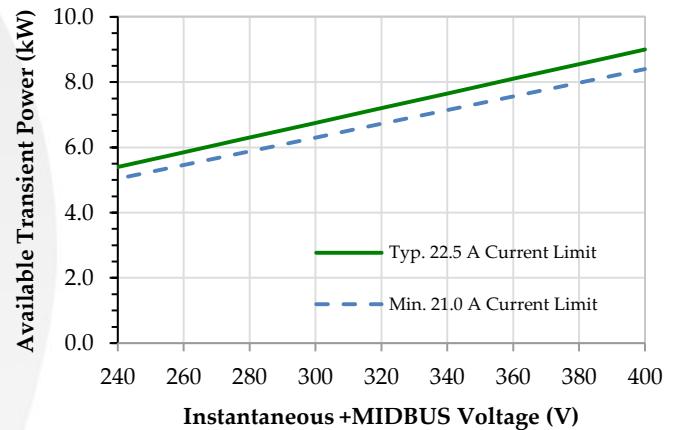

Figure 15: Available transient power vs. instantaneous +MIDBUS voltage. See Figure 13 for steady-state voltage.
remain reverse-biased until the +MIDBUS voltage drops below the level shown in Figure 13. Using relatively low capacitance at +MIDBUS allows the +MIDBUS voltage to drop to this level quickly, allowing the converter to contribute some power to +VOUT (see Figure 15). The voltage rating for capacitors at +VOUT should be at least 450 Vdc.
V_f is the minimum capacitor voltage during the transient. (For cap at +MIDBUS, determine from Figure 15; for cap at +VOUT, determine based on downstream requirements)
When the holdup capacitor is located at +MIDBUS, V_i will be a function of line voltage (see Figure 13) and load current. V_f will be a function of load power during line interruption because of the +MIDBUS current limit (see Figure 15 and further discussion in the section entitled "+MIDBUS Current Limit").
- 4) Current limit tolerance (21 A minimum, which raises the required V_f to sustain load power as shown in Figure 15)
Figure 18 shows an example of a 50 ms line interruption. Note that for the conditions in Figure 18, the ideal equation would predict $C_{holdup} > 6$ mF. Yet the actual capacitor used was 7.5 mF, chosen to keep the minimum voltage well above the available transient power shown in Figure 15 and to account for the combined effects of items 1, 2, 5, and 6 discussed above.